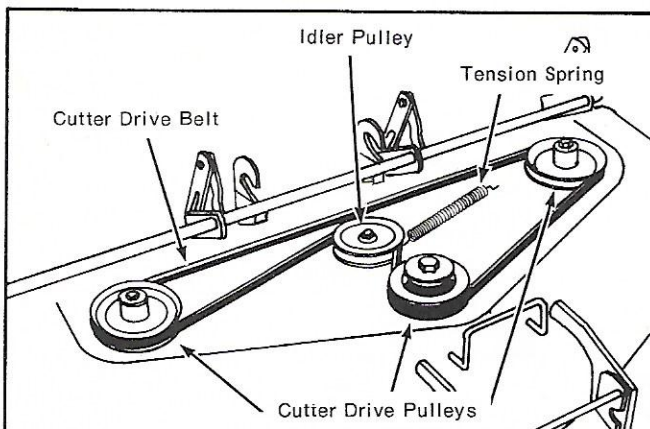

Figure 9
4. With a pair of pliers, grip the end of the tension spring and remove it from the slot in the mower housing (See Fig. 9).